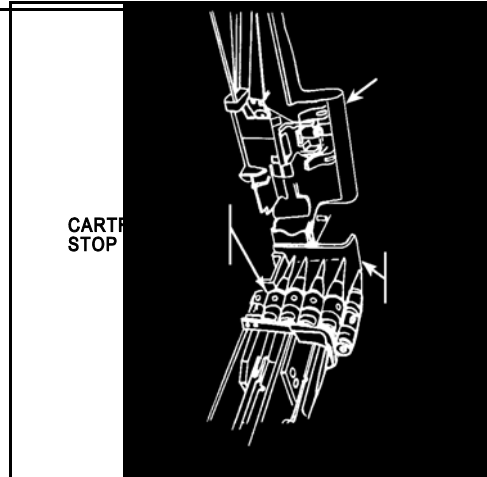

Figure 6. Cartridge stop.
c. Place the ammunition belt in the feed tray with the first cartridge resting against the cartridge stop (Figure 6).